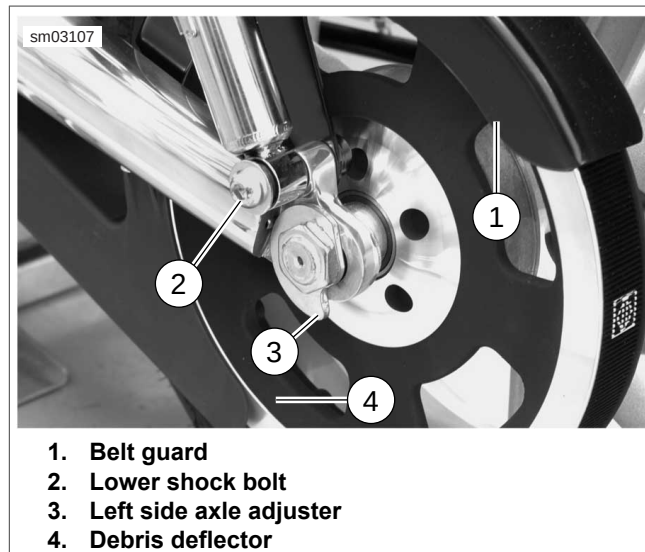
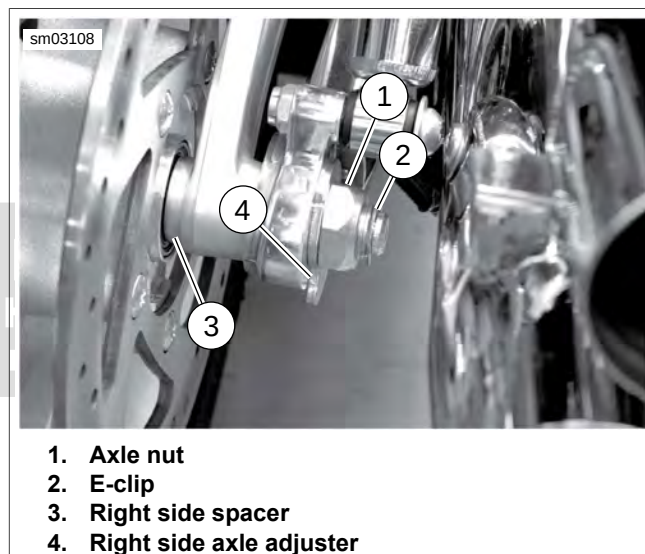

Figure 2-58. Rear Axle: Left Side (typical)
Figure 2-59. Rear Axle: Right Side (typical)
3. See Figure 2-58. Remove fasteners holding lower debris deflector (4) to rear fork. Remove debris deflector.
4. If necessary, remove fasteners holding belt guard (1) to rear fork. Back lower shock bolt (2) out until belt guard is free and remove belt guard. Shock bolt retaining threads are integral to belt guard. Leave shock bolt in place to maintain alignment.
5. See Figure 2-59. Remove E-clip (2), axle nut (1) and adjuster (4) from right side of axle.